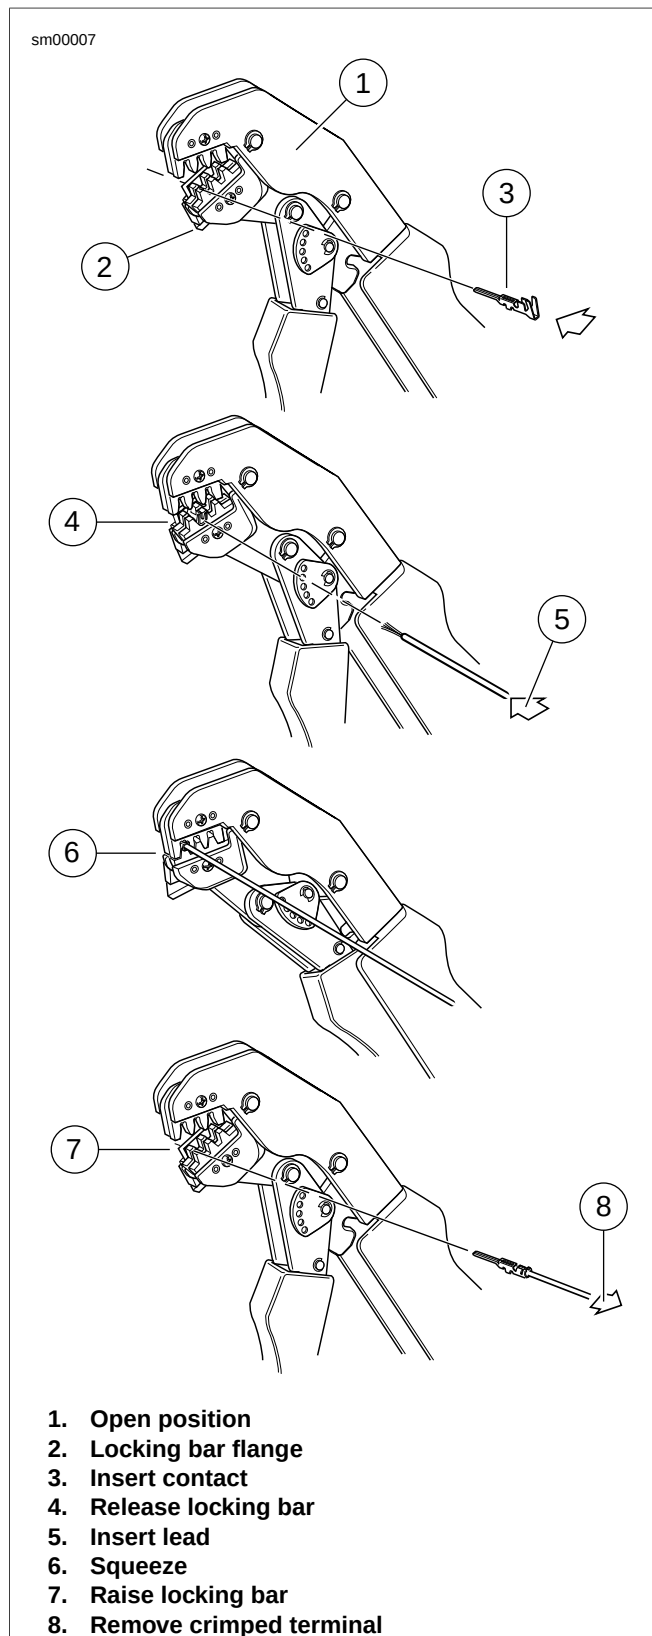

**Figure A-60. Tyco 070 Multilock Unsealed Connector:
- 1. See Figure A-60. Squeeze the handles to cycle the AMP MULTI-LOCK CRIMPER (Part No. HD-41609) to the fully open position (1).
- 2. Raise locking bar by pushing up on bottom flange (2).
- 3. See Figure A-60. With the insulation crimp tail facing upward, insert terminal (pin or socket) (3) through the locking bar, so that the closed side of the terminal rests on the nest of the crimp tool.
- 4. Release locking bar to lock position of contact (4). When correctly positioned, the locking bar fits snugly in the space at the front of the core crimp tails.
- 5. Insert stripped end of lead (5) until ends make contact with locking bar.
- 8. Raise up locking bar (7) and remove crimped terminal.